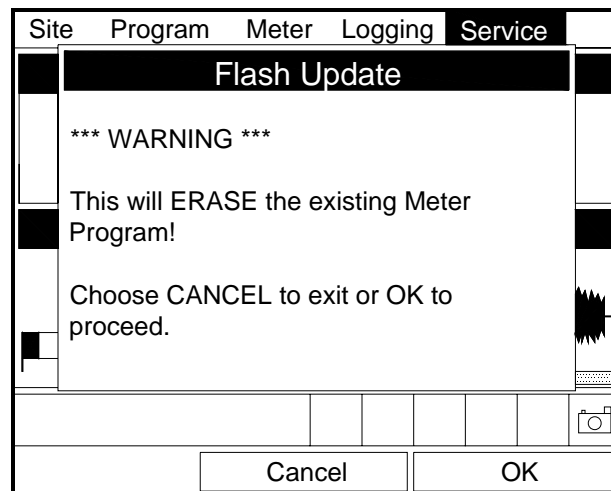

Figure 2-9: Flash Update Option
To begin the loading procedure, scroll down to the Flash Update entry in the Service Menu and press [ENTER]. The screen appears similar to Figure 2-9 below.
1. As shown in Figure 2-9 above, the Flash Update option erases all instrument coding.
- Press [F3] (OK) to confirm that you wish to erase the program.